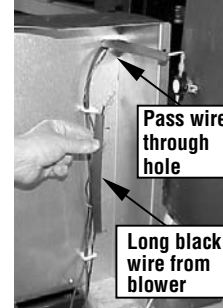

Figure 6a
6. Locate the long black wire from the blower assembly and pass the wire through the hole in the rear shroud. Stow the wires into the existing wire holders on the inside of the rear shroud (see Figure 6a & 6b).